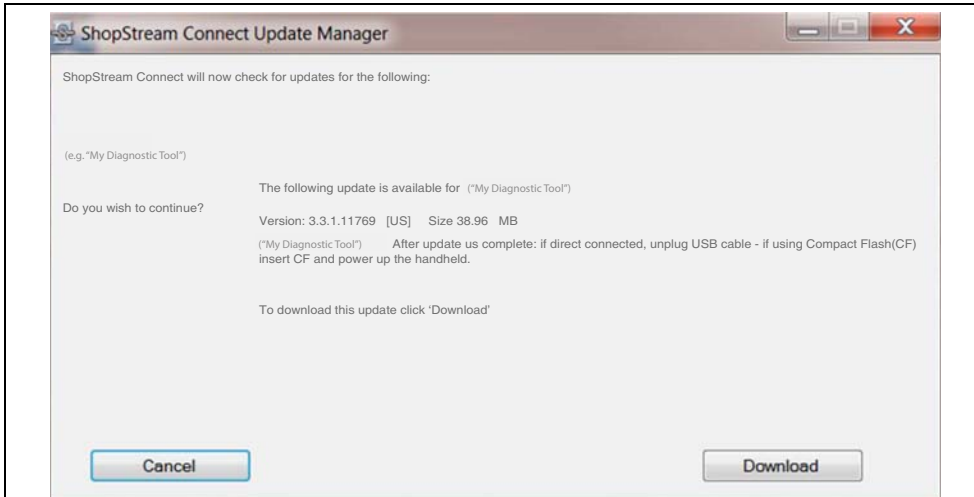

Figure 13-12
2. If service release updates are available, select **Next** to continue, then select **Download** and follow the on-screen instructions to complete the installation (Figure 13-12).